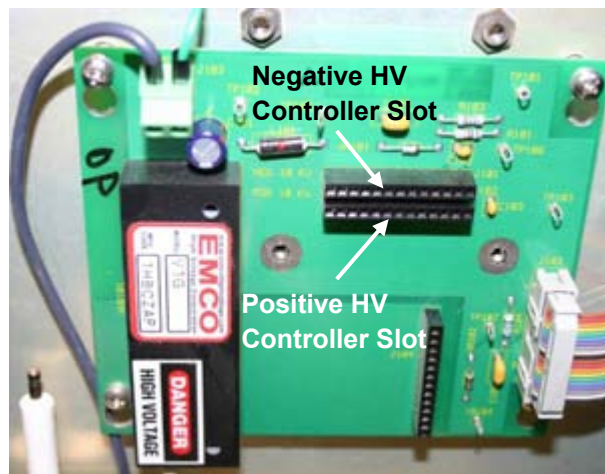

Figure 6-14
4. Grab the sides of the HV controller body and pull it slowly away from the electrical board until it is fully removed. Figure 6-14 shows the electrical board after the HV controller is removed.